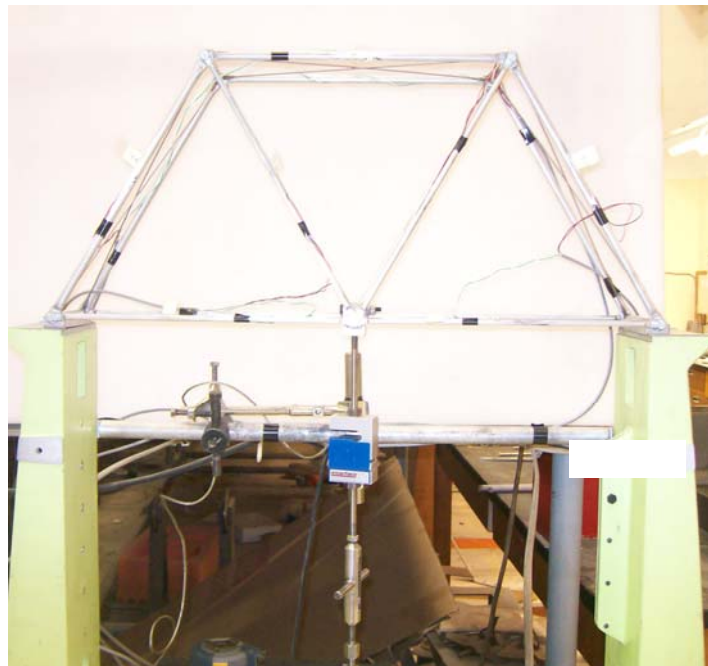

Figure 1 Truss test set-up
1. The set-up for this experiment is shown in Figure 1. Draw a sketch of the truss. Identify and label all the members and joints.